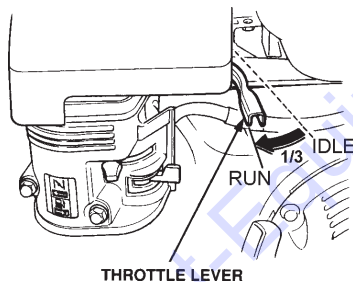

Figure 9. Throttle Lever (1/3 Start Position)
2. Move the **throttle lever** (Figure 9) away from the slow position, about 1/3 of the way toward the fast position.
4. Place the **choke lever** (Figure 9) in the "CLOSED" position if starting a **warm engine** or the **temperature is warm**.